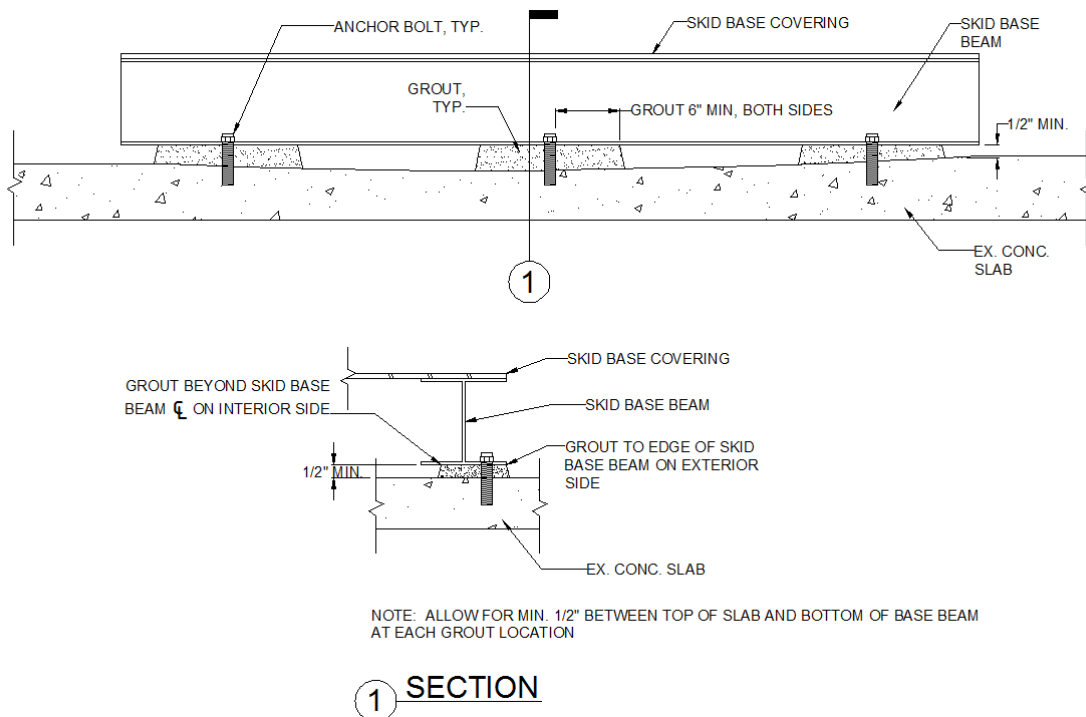

Figure IG-3: Typical Grout Locations
- B. Mark the center of each mounting hole and the grout locations on the concrete slab. (see Figure IG-3)
- I. Level skid with wooden shims – set shims outside of grout locations and allow for a minimum of 1/2" gap between top of slab and bottom of base beam at each grout location (see Figure IG-3).
- K. Grout under skid base beams per grout manufacturer's instructions and Figure IG-3. (If skid base is open, place grout under entire flange width)